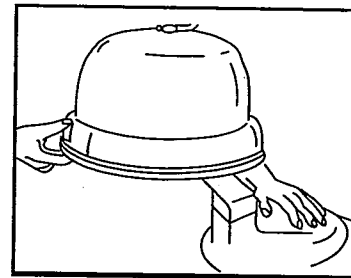

Figure 2
3. Place one hand on the Dryer Base for support, and with the thumb of your other hand, press the Tilt Control Button. With the Tilt Control Button pressed, pull the Hood forward until it locks into place (Fig. 2).